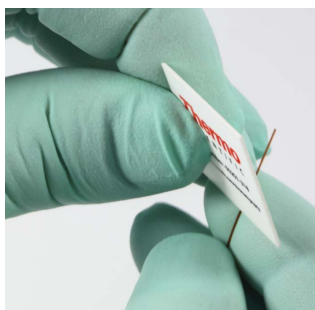

Figure 2: Step 1 of cutting a fused silica column
1. Pinch the column between the finger and thumb of one hand. Use a ceramic wafer in the other hand to score across the column, applying light pressure. While scoring, the column should be supported on the uncut side against your finger. The wafer should be held at approximately 45° to the column as shown in Figure 2. The aim is to cut the polyimide coating evenly without breaking the column.